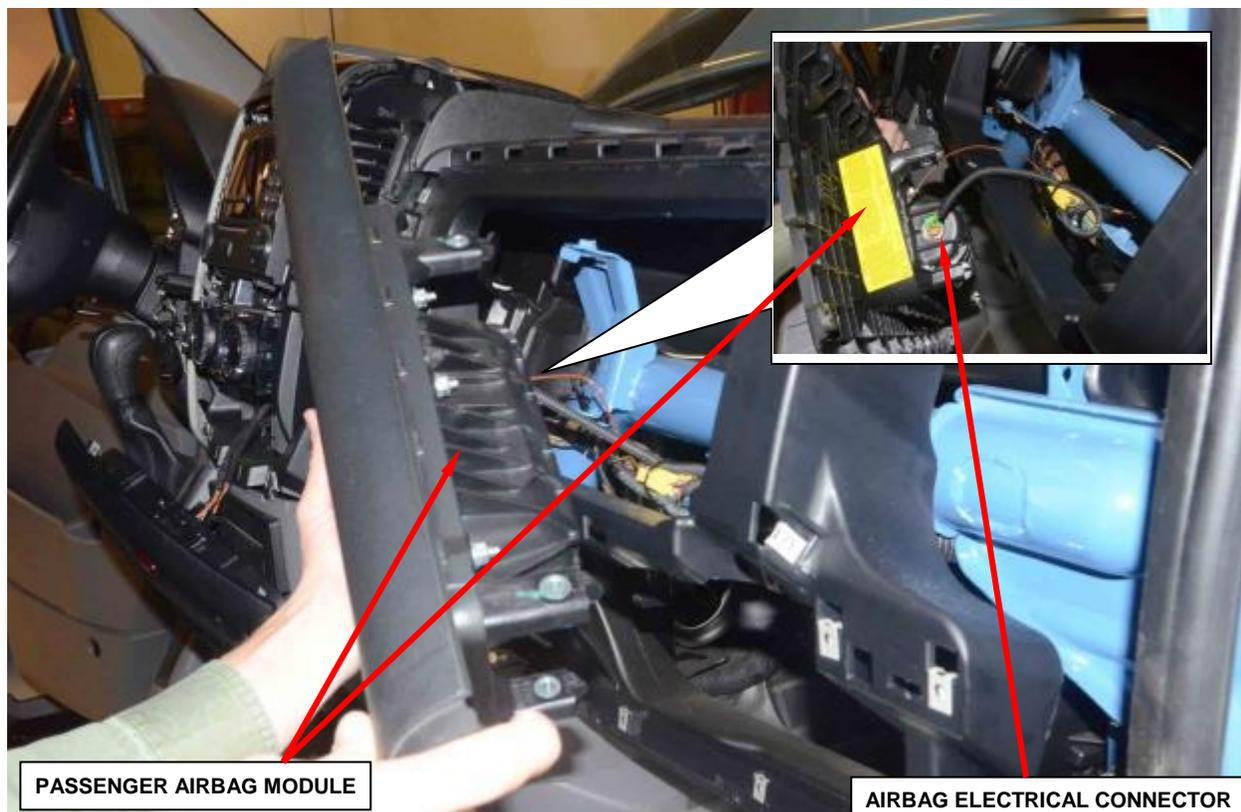

Figure 12 – Passenger Airbag Module
15. Pull the passenger airbag module rearward far enough to access the airbag electrical connector on the inboard end of the unit (Figure 12 and 13).
23. Connect the airbag electrical connector to the airbag inflator connector receptacle, which is located on the inboard end of the passenger airbag housing. Be certain that the latch on the connector and the orange Connector Position Assurance (CPA) lock are each fully engaged (Figure 12).